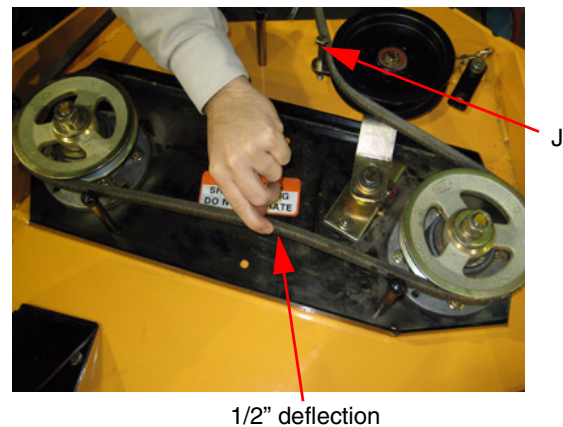

Figure 19
(See Figure 19)
3. Remove the cap screw which serves as a belt guide and is mounted in the idler pulley arm. (Item J, Figure 19.)